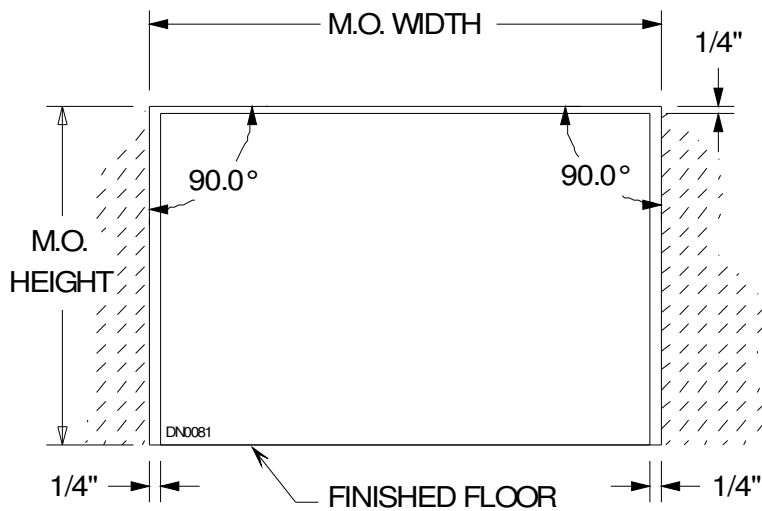

Figure 2
A. Masonry Opening (MO) Preparation
3. MO width should be package width plus 1/4 inch per side. (See Figure 2).
4. Check track recesses if used. Note that track recess is under jamb tubes as well as track. It can be across door opening as well. (See Figure 2 and 3).